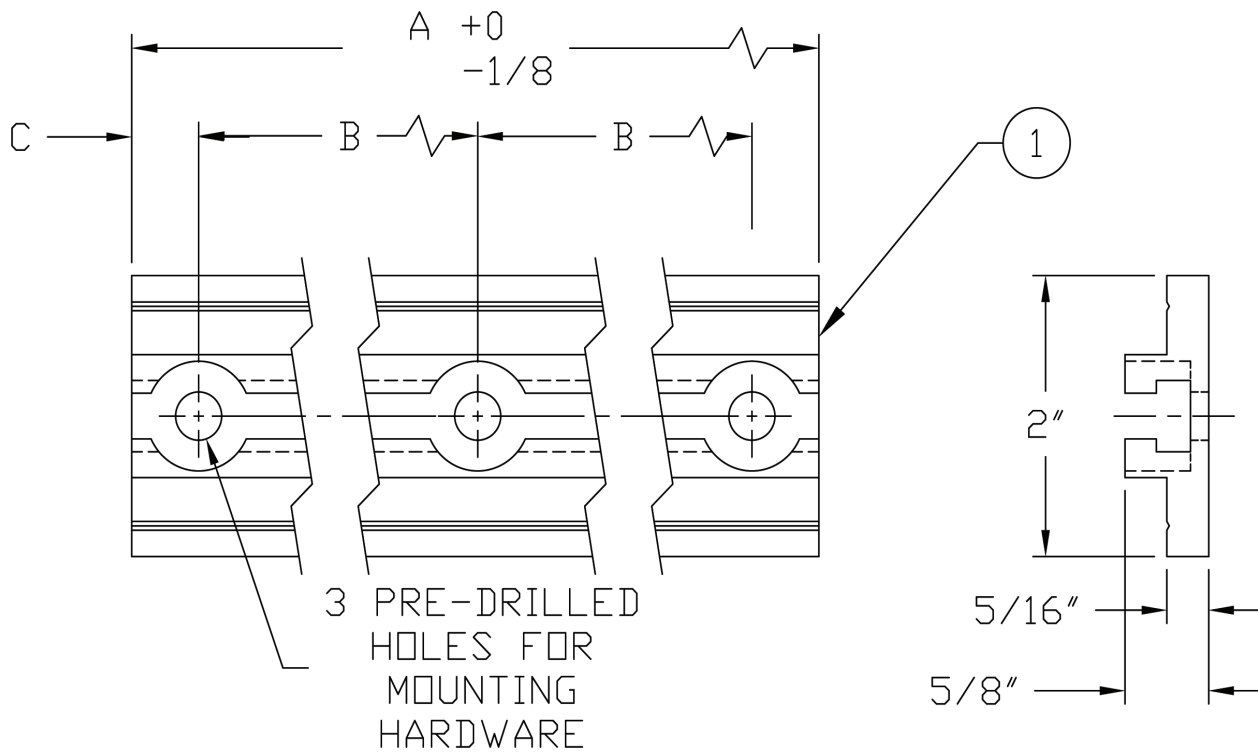

Figure 3 - Channel Dimensions
3. Figure 3 shows the overall size and dimensions for the ABC Profile (1).